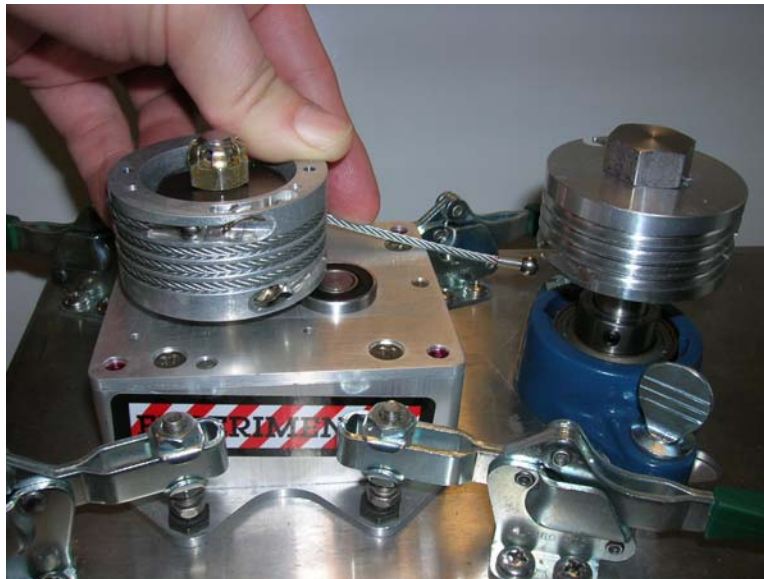

Figure 3-11. Cable around unit capstan, showing end of cable near test fixture capstan bottom slot
- 2) Wrap the cable around the unit capstan approximately three and one half turns, leaving just enough cable to reach the bottom end slot of the test fixture capstan. See Figure 3-11. Turning the test fixture solenoid switch on will hold the unit capstan in place and make winding easier.